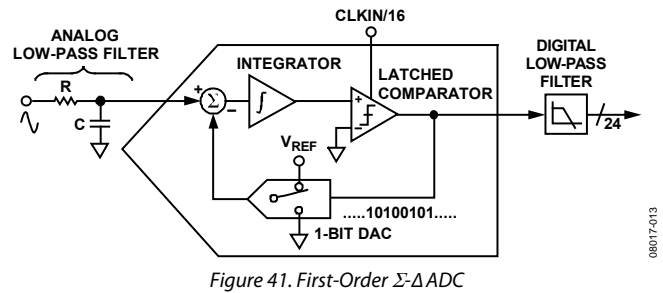
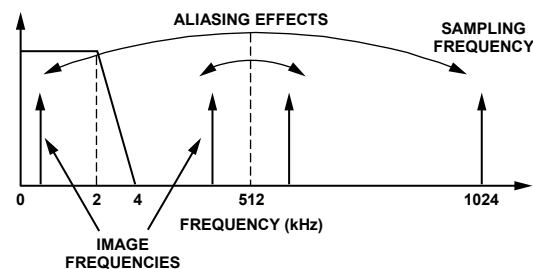

Figure 41. First-Order  $\Sigma$ - $\Delta$  ADC
Figure 43. Aliasing Effects
For simplicity, the block diagram in Figure 41 shows a first-order  $\Sigma$ - $\Delta$  ADC. The converter consists of the  $\Sigma$ - $\Delta$  modulator and the digital low-pass filter.
Figure 41 also shows an analog low-pass filter (RC) on the input to the ADC. This filter is placed outside the ADE7854; its role is to prevent aliasing. Aliasing is an artifact of all sampled systems and is illustrated in Figure 43. Aliasing means that frequency components in the input signal to the ADC, which are higher than half the sampling rate of the ADC, appear in the sampled signal at a frequency below half the sampling rate. Frequency components (the arrows shown in black) above half the sampling frequency (also known as the Nyquist frequency, that is, 512 kHz) are imaged or folded back down below 512 kHz. This happens with all ADCs, regardless of the architecture.